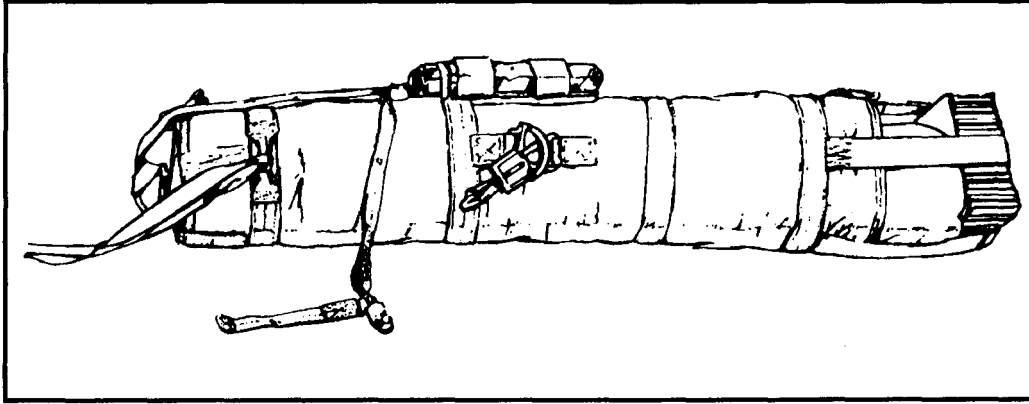

Figure 12-55. Standard lowering line stowed.
(1) Insert the lowering line assembly in the lowering line stow pocket with the attaching strap positioned against the pack body and ejector snap away from the jump pack.
(2) Fasten the hook-pile tabs firmly together around the lowering line stow pocket (Figure 12-55). The AT4JP is now ready for attachment to the parachutist.